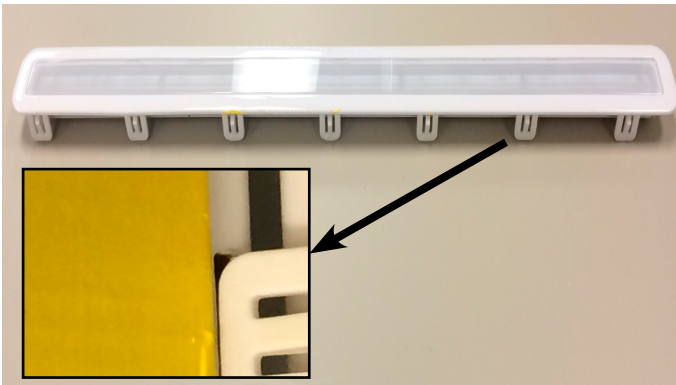

FIGURE 14: Plastic Retaining Tabs
1. Use a putty knife to release the thirteen (13) plastic tabs (see FIGURE 14 on next page) holding the LED Light in place.